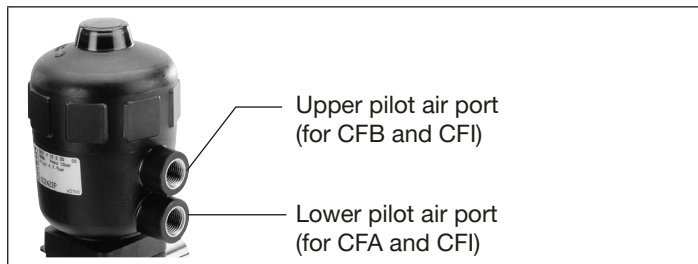

Fig. 29: Pneumatic Connection
- Pressurize lower pilot air port with compressed air (value as indicated on the type label) (see “Fig. 29”).
- Pressurize upper pilot air port with compressed air (value as indicated on the type label) (see “Fig. 29”).
→ Connect control medium to upper and lower connections (see “Fig. 29: Pneumatic Connection”).